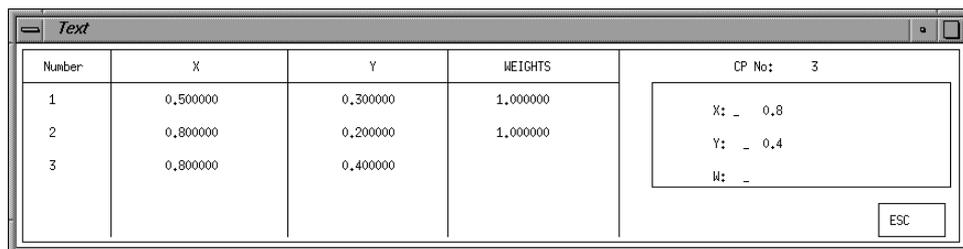

Figure 5.1: CP setting, using the keyboard
- Keyboard → digit CP coordinates and weights in the text-box mask of fig.5.1;
Keyboard → digit IP coordinates in the mask text-box as for fig.5.1;